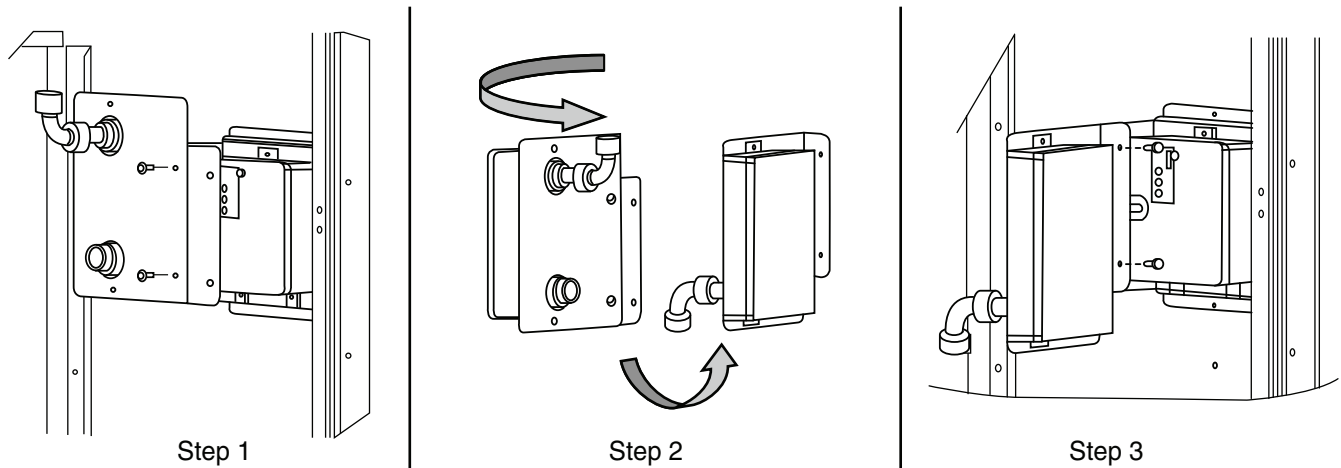

Fig. 71 — Completing Installation of Return Air Smoke Sensor
1. Unscrew the two screws holding the Return Air Smoke Detector assembly. See Fig. 71, Step 1.
3. Turn the assembly 90 degrees and then rotate end to end. Make sure that the elbow fitting is pointing down. See Fig. 71, Step 2.
4. Screw the sensor and detector plate into its operating position using screws from Step 1. Make sure the sampling tube connection is on the bottom and the exhaust tube is on the top. See Fig. 71, Step 3.